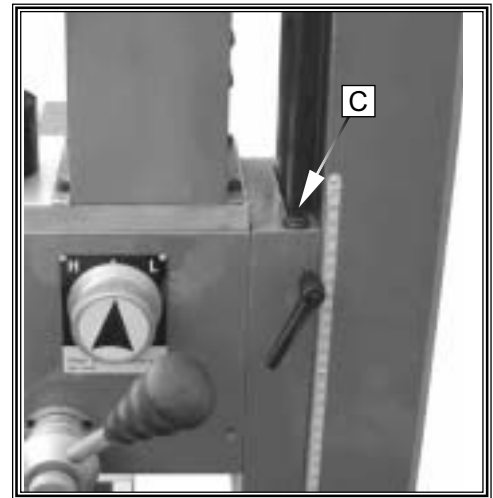

Fig. 59
1. The vertical gib adjustment screw (C, Fig.59) is found onto the column.